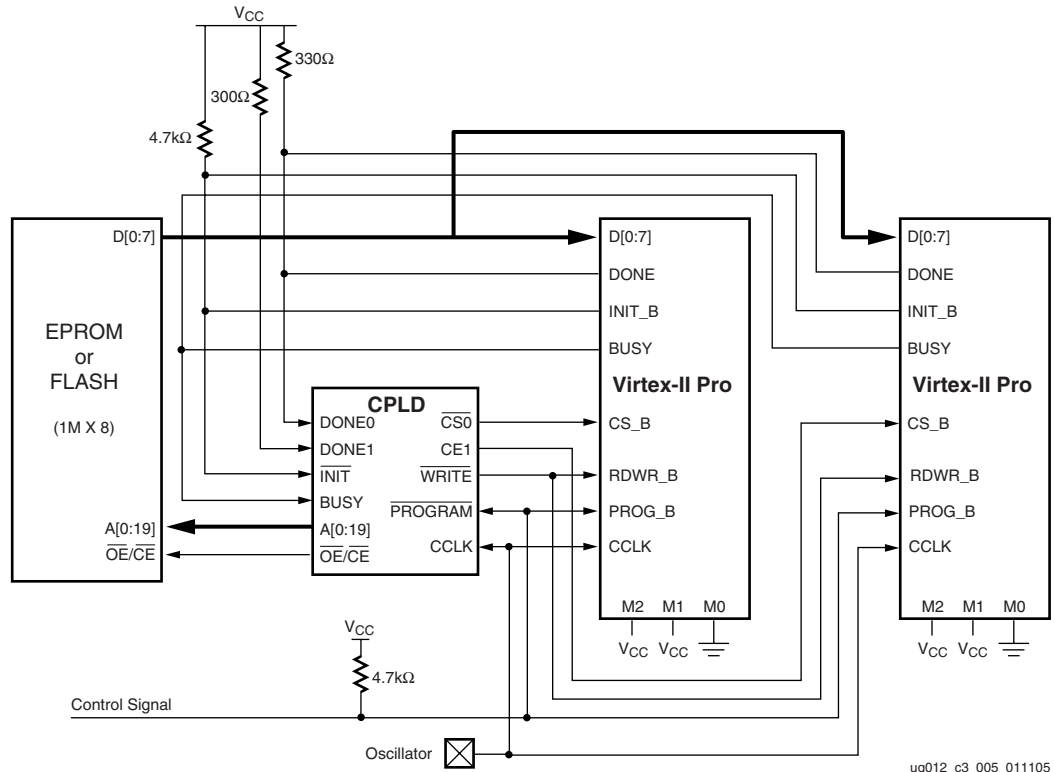

Figure 4-7: Configuring Virtex-II Pro Devices from Parallel EPROMs
- [XAPP137](http://www.xilinx.com/bvdocs/appnotes/xapp137.pdf), *Configuring Virtex FPGAs From Parallel EPROMs With a CPLD* (www.xilinx.com/bvdocs/appnotes/xapp137.pdf) describes an architecture that configures one or more Virtex-II Pro devices using the Slave SelectMAP mode. See Figure 4-7 for an example of FPGA configuration using a CPLD and a parallel EPROM.